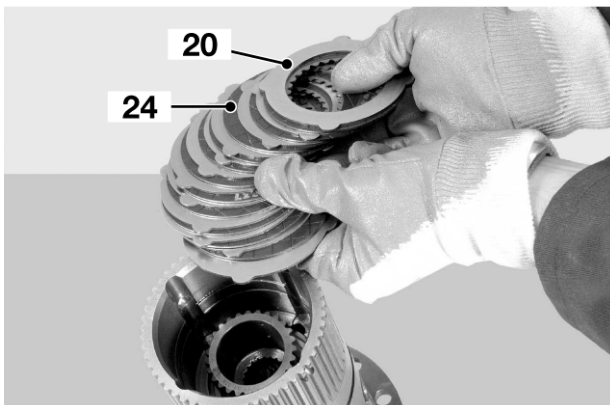

Fig 32.
- 10 Install and replace, if necessary the differential lock discs 20 and 24. ⇒ Fig 32. (□ F-50).